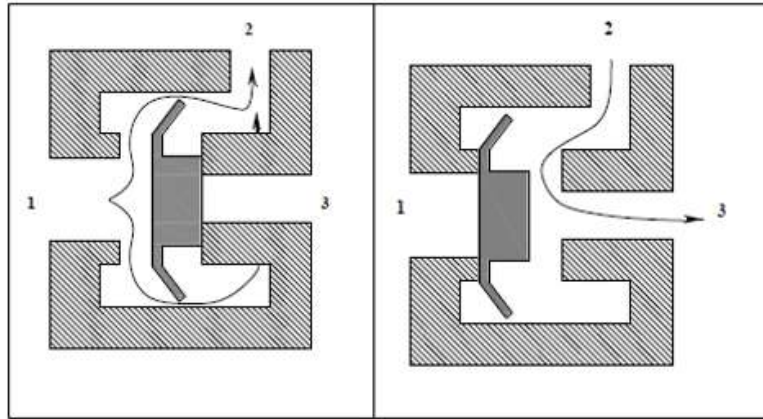

Fig.5.19 Quick exhaust valves
- ▶ A quick exhaust valve is a typical shuttle valve. The quick exhaust valve is used to exhaust the cylinder air quickly to atmosphere. Schematic diagram of quick exhaust valve is shown in Fig.5.19. In many applications especially with single acting cylinders, it is a common practice to increase the piston speed during retraction of the cylinder to save the cycle time.
- ▶ The construction and operation of a quick exhaust valve is shown in Fig.5.19. It consists of a movable disc (also called flexible ring) and three ports namely, Supply port 1, which is connected to the output of the final control element (Directional control valve). The Output port, 2 of this valve is directly fitted on to the working port of cylinder. The exhaust port, 3 is left open to the atmosphere.